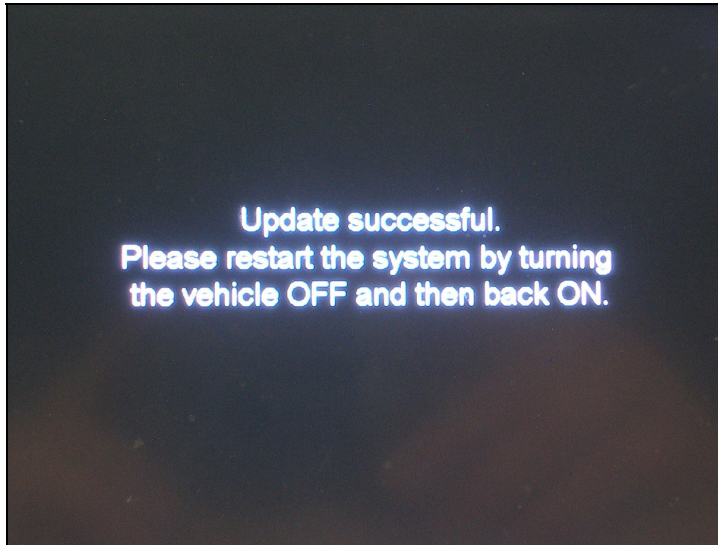

Figure 17
18. After the vehicle's SD card is reinserted, the message in Figure 17 will appear.